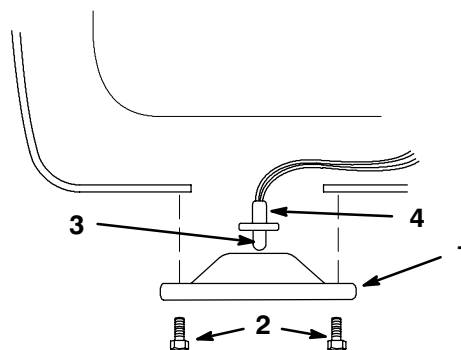

Figure 57
2. Remove the two screws securing the lens (Fig. 57).
3. Pull the lens out far enough so you can remove the bulb socket (Fig. 57).
4. Pull the bulb from the socket (Fig. 57).
1. Push a new bulb into the socket (Fig. 57).
2. Install the bulb socket in the lens and push the lens into the tractor (Fig. 57).
3. Secure the lens with the two screws removed previously (Fig. 57).